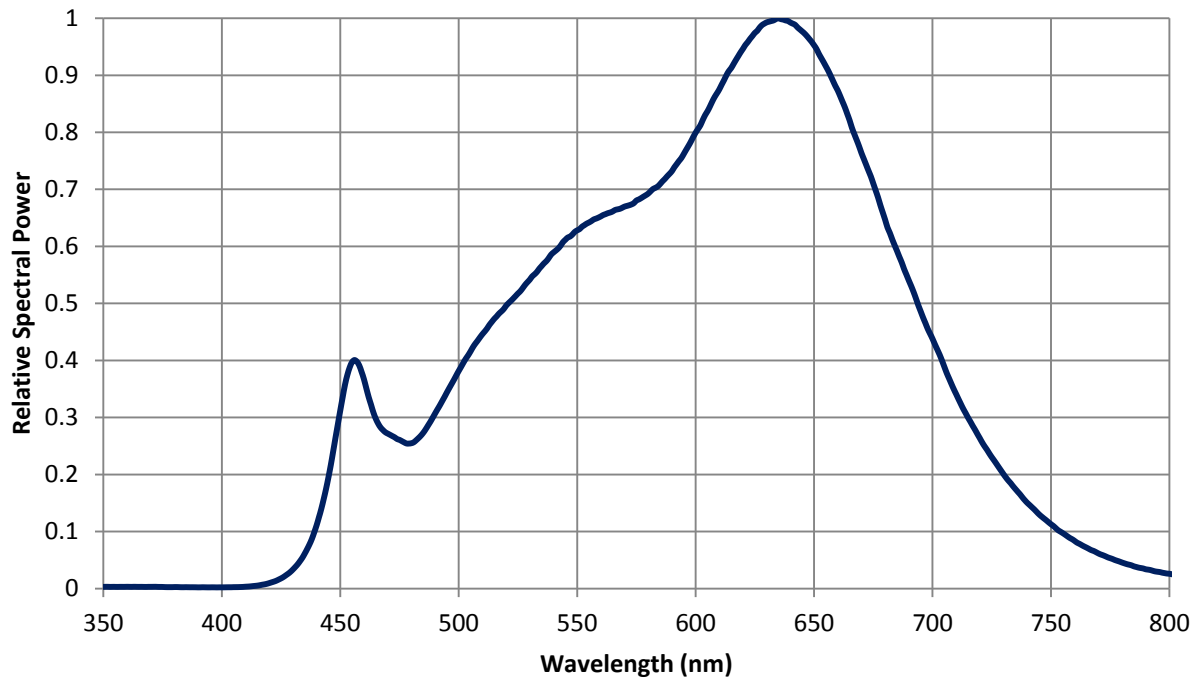

Figure 5: Typical relative spectral power vs. wavelength @ T_c = 25°C.
- Solder conditions per JEDEC 020D. See Reflow Soldering Profile Figure 5.